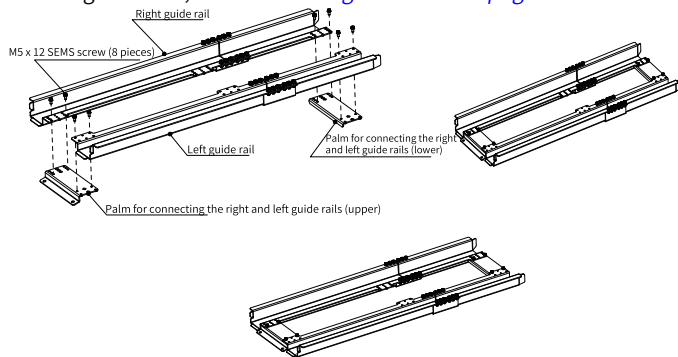

Figure 5-19 Assembling guide rails
a. Assemble the guide rails, as shown in "Figure 5-19 " on page 62 .